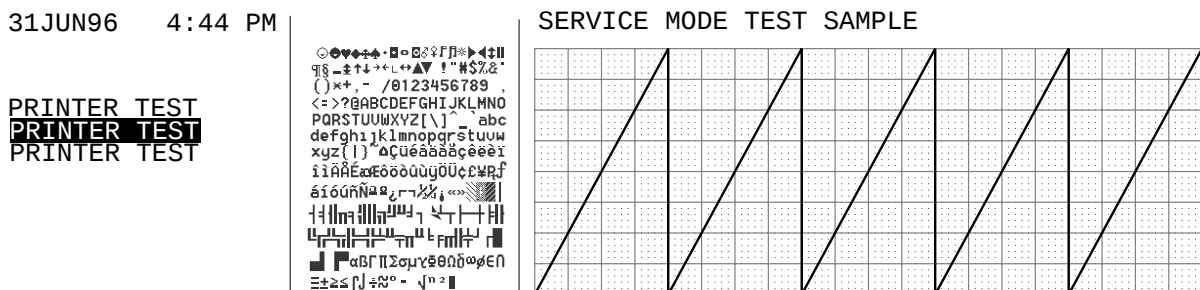

Figure 3-7: Waveform/Text Test Printout
- Press softkey #1, “WAVEFORM TEXT TEST”. Verify that a list of ASCII characters and a sample waveform print as illustrated in Figure 3-7.